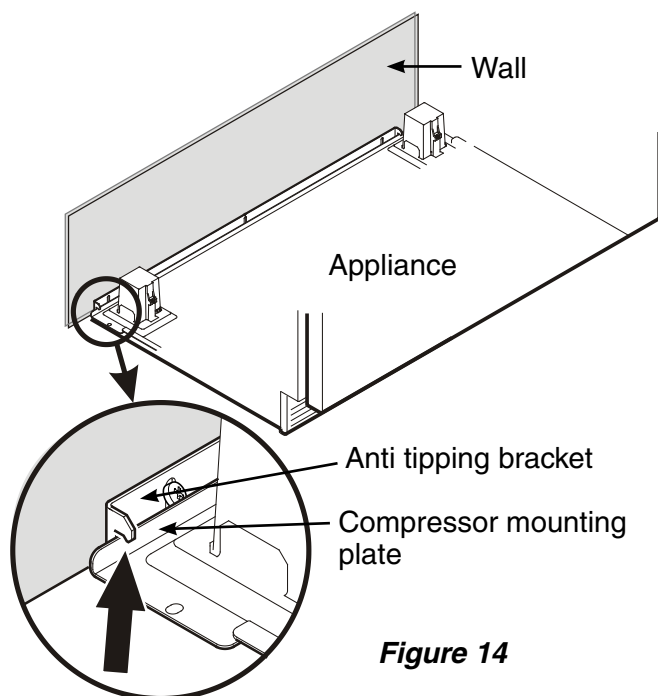

Figure 14
4. Push the appliance slowly to the back wall until the compressor mounting plate makes contact with the anti tipping bracket (**Figure 14**).
To prevent the appliance from tipping forward the compressor mounting plate must have contact with the anti tipping bracket (**Figure 14**).